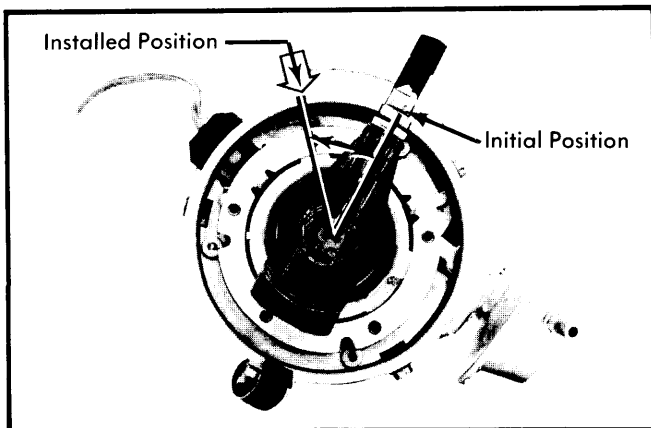

Fig. 4 Distributor Rotor Position Prior to Final Positioning
2. When installing distributor, rotor should initially point to clamp clockwise from mark on distributor housing. Crankshaft should still be in position for firing No. 1 cylinder following valve adjustment. When distributor is pushed into place, rotor will point to mark on housing. Fig. 4 and 5.